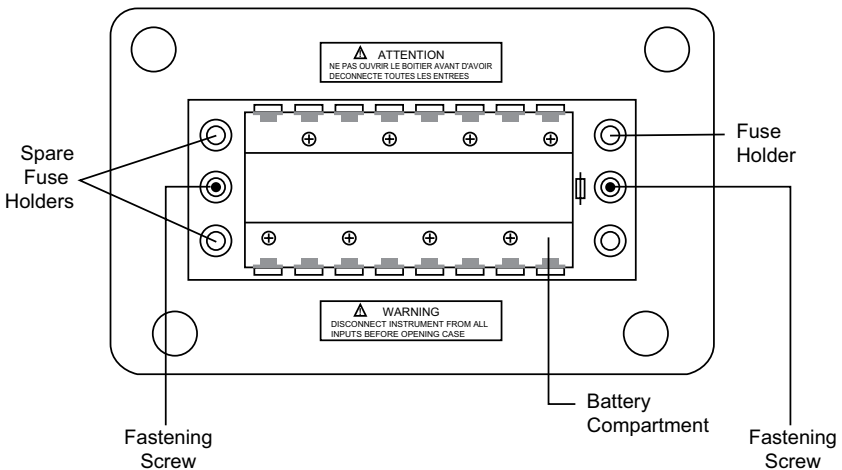

Figure 24
- Loosen the two fastening screws on the battery compartment cover, which is located on the bottom of the case (See Figure 24).